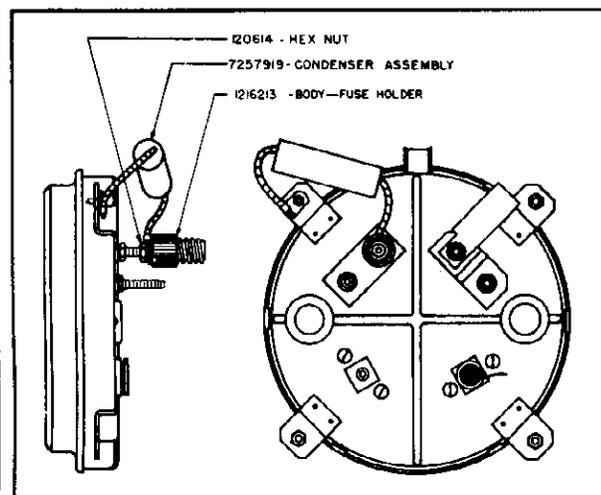

Figure 62
6. Install ammeter condenser and male fuse holder body to ammeter by first placing hex nut on discharge terminal of ammeter about 3/8." Connect one lug of ammeter condenser to same terminal and then assemble male portion of fuse holder to ammeter stud. Connect other end of ammeter condenser to instrument panel for ground. (See Figure 62.)